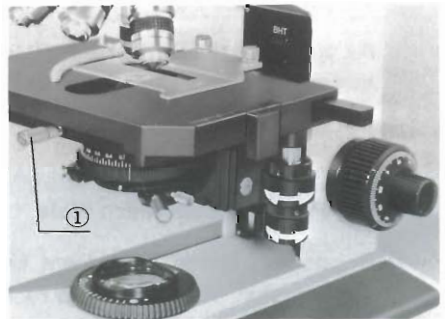

Fig. 8
- 3) Bring the portion of the specimen for observation into the light path by means of the low drive control knobs. (Fig. 8)
- ★ Tighten the stage clamping screw ① in the microscope front.